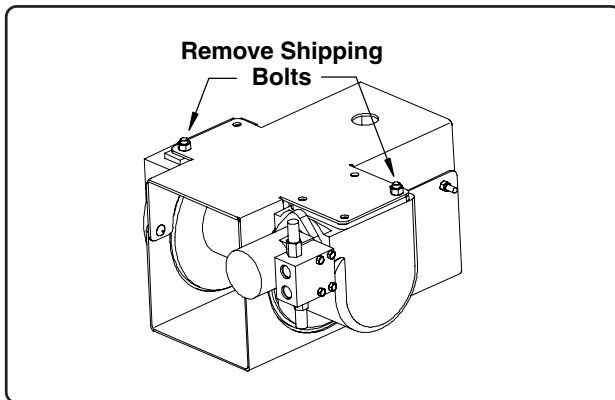

Fig. 3
1. Remove and discard the two shipping bolts from the top of the hydraulic winch assembly (See Fig. 3).